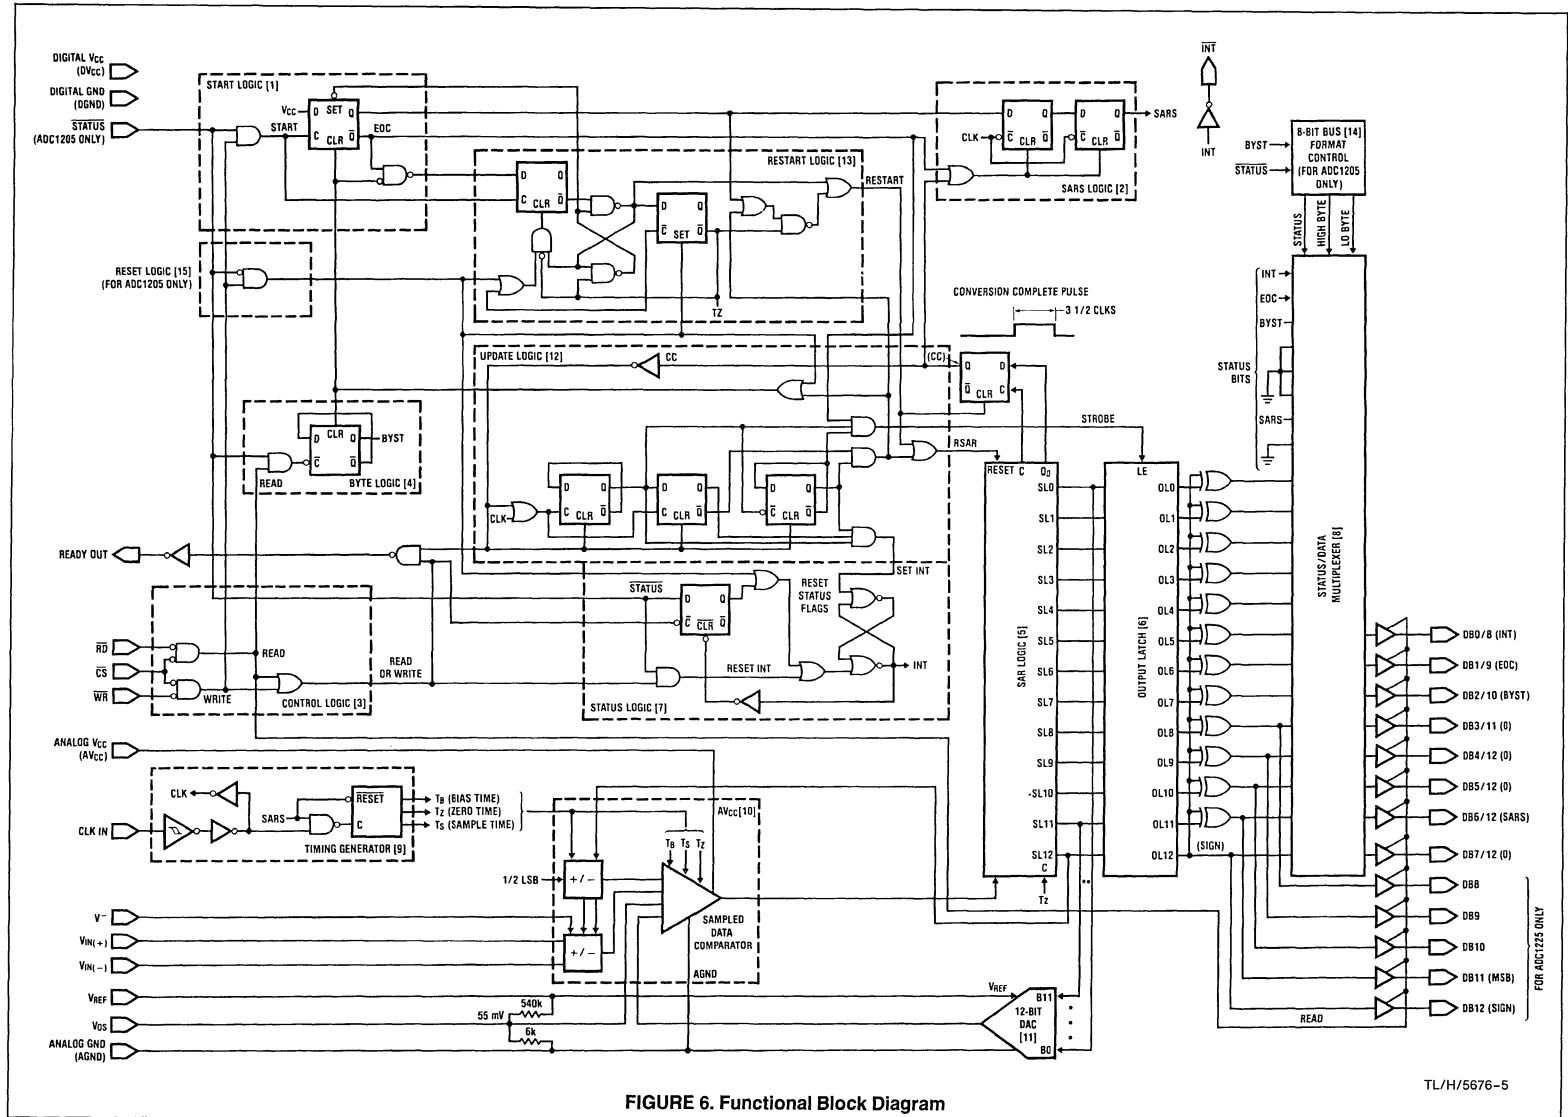

FIGURE 6. Functional Block Diagram
When using the ADC1225 or ADC1205 with a microprocessor, starting an A-to-D conversion is like writing to an external memory location. The \overline{WR} and \overline{CS} lines are used to start the conversion. The simplified logic (Figure 6) shows that the falling edge of \overline{WR} with \overline{CS} low clocks the D-type flip-flop and initiates the conversion sequence. A new conversion can therefore be restarted before the end of the previous sequence. \overline{INT} going low indicates the conversion's end.
1.2 THE CONVERSION PROCESS (Numbers designated by [] refer to portions of Figure 6.)